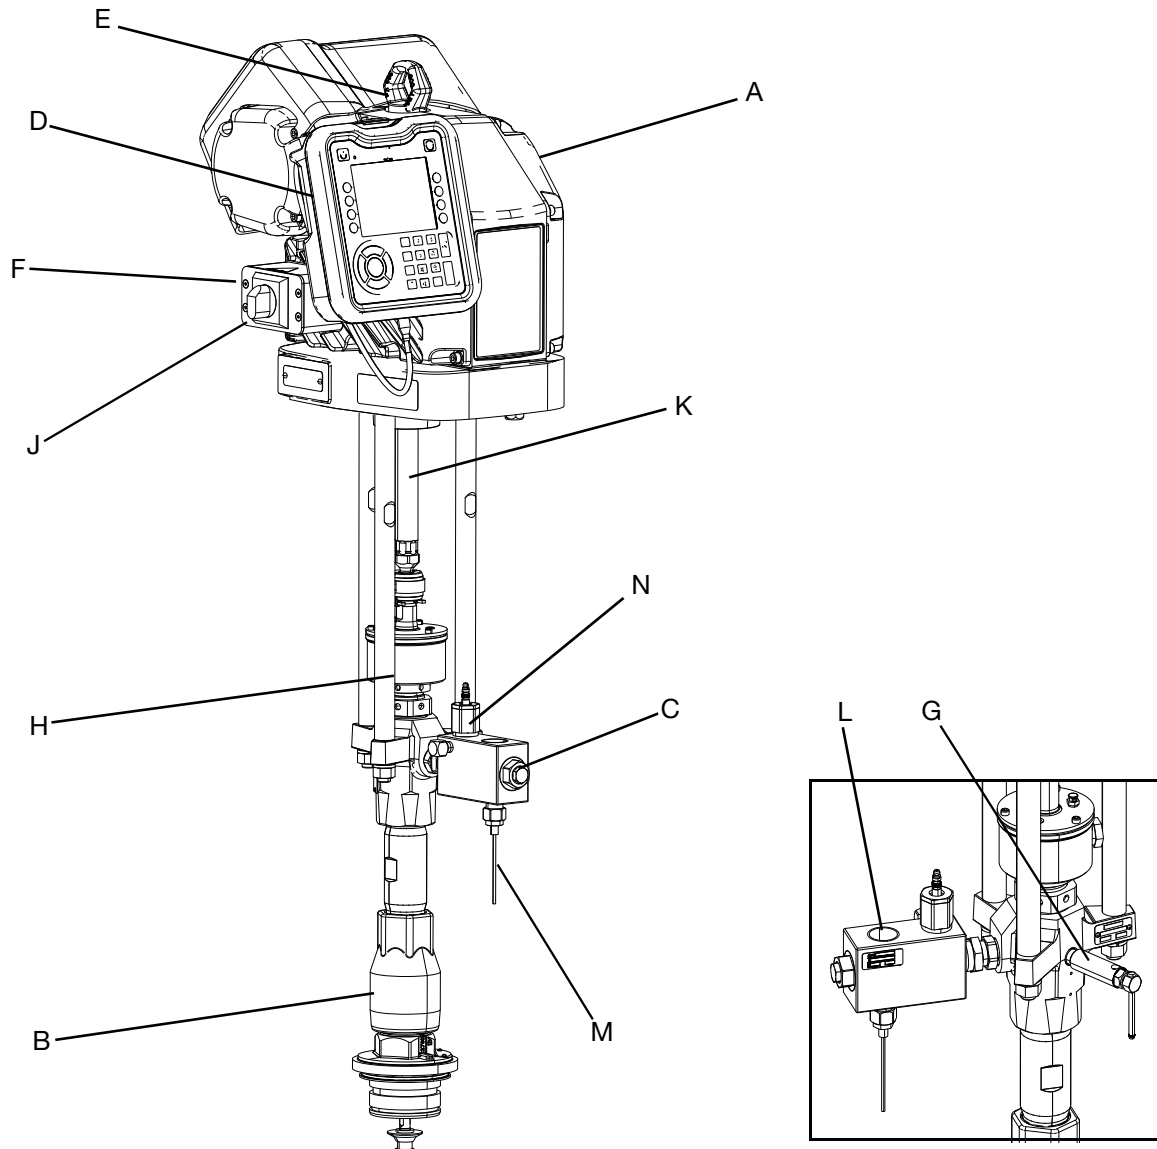

Fig. 1: E-Flo SP Components
Attach a chain or hook at the proper lift location. Lift off the pallet using a crane or a forklift. See the lift ring (E) in **Fig. 1** on page 7.